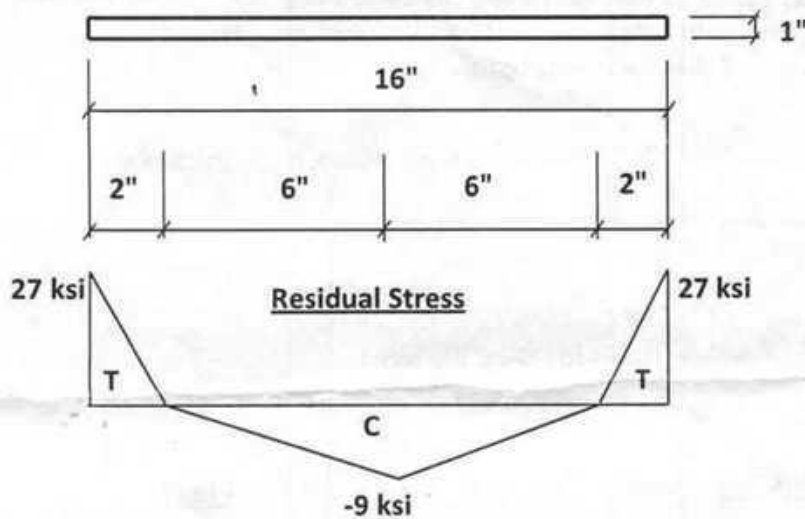

Fig. 3
4. Write the equation for the stress-strain behaviour in tension of the 16x1 inch plate with the residual stress shown in Fig. 3 at an imposed tensile strain of 0.0014 in./in. What is the tangent modulus at this strain? Given:  $F_y = 36$  ksi;  $E = 30000$  ksi. 8 1/3